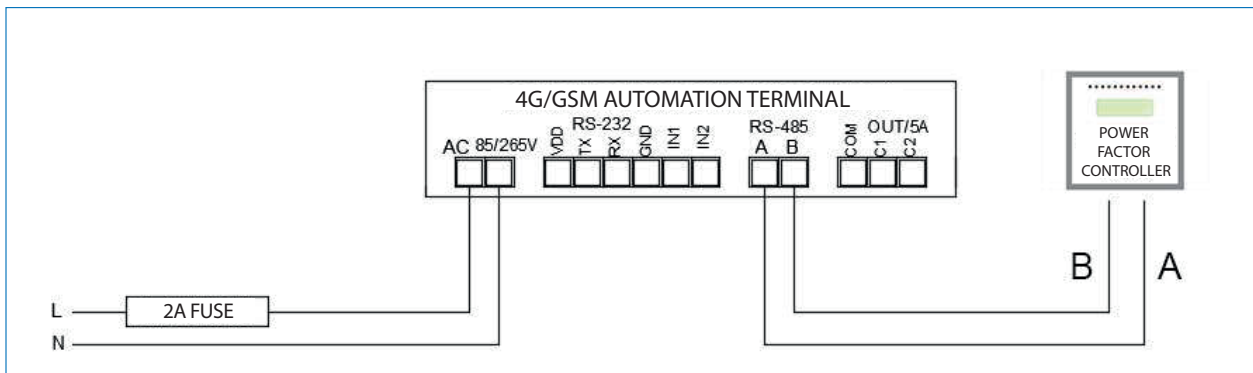

Figure 4.1
- d. Modbus Device (PFC, Analyzer, etc.) / RS-485: (Figures 4.1 and 4.2)